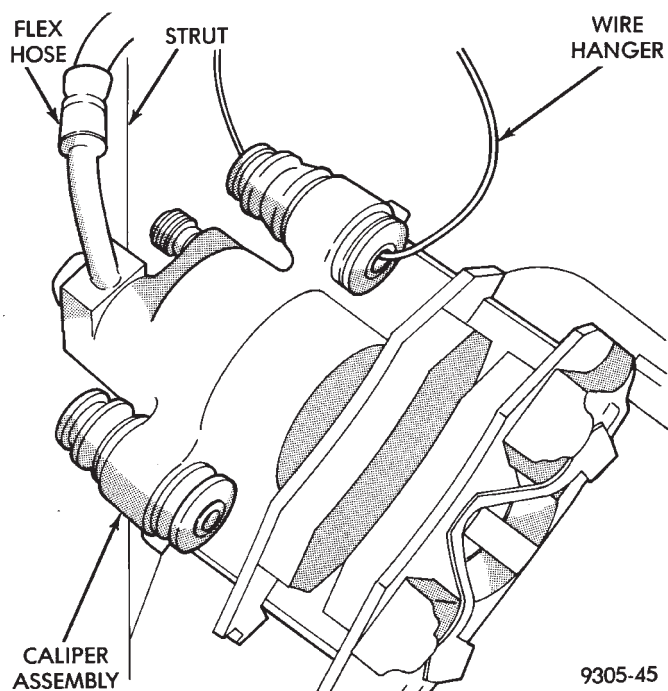

Fig. 41 Storing Caliper
(5) Support caliper assembly firmly from rear strut to prevent weight of caliper from damaging the flexible brake hose (Fig. 41).